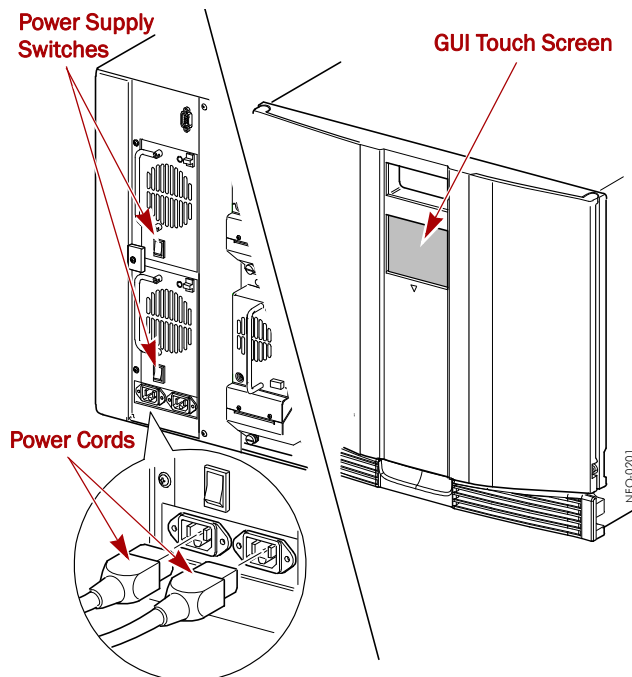

Figure 12. Powering Up a NEO 4000E
1. Connect the supplied **power cords** to AC receptacles located on the back of the library module (Figure 12).